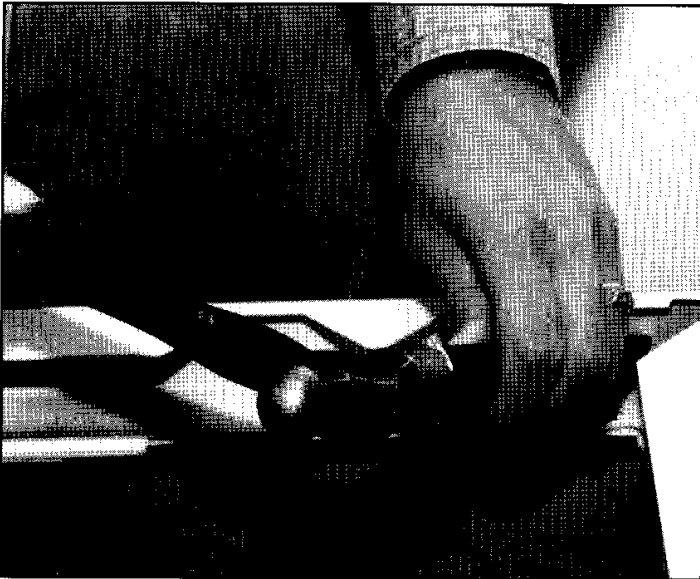

Figure 12a
**For Gas Dryers:** Remove red and blue thread protectors from gas pipe. Knock out square hole in rear of support and insert gas pipe through hole. (See figures 12a-d.) Allow pipe to rest on inside of support. (See figure 13.) Make sure valve is closed. (See figure 13a.)